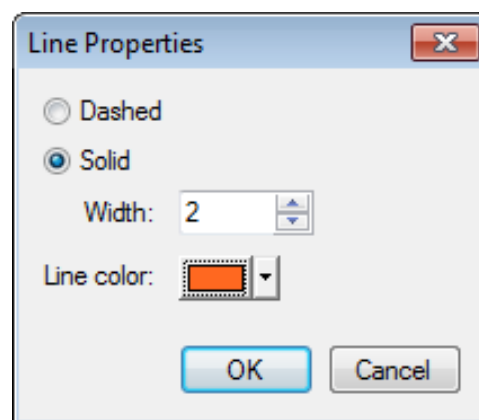

Figure 17 Line Properties dialog
7. On the *GIS* tab, click on the wide button to the right of *Lines* (the button to the left of the drop-down arrow button) to bring up the *Line Properties* dialog (Figure 17).